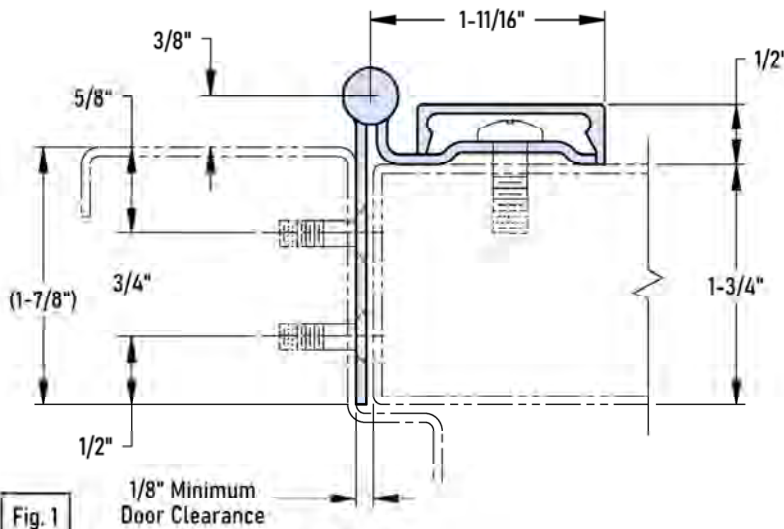

Fig. 1
- A. Place hinge on frame. Position top of hinge $1/8"$ maximum below. Allow $1/16"$ between stop and edge of hinge (Fig. 1).
- Place the hinge on the door as shown (Fig. 1). Carefully line up the hinge with the top and back edges of the door.